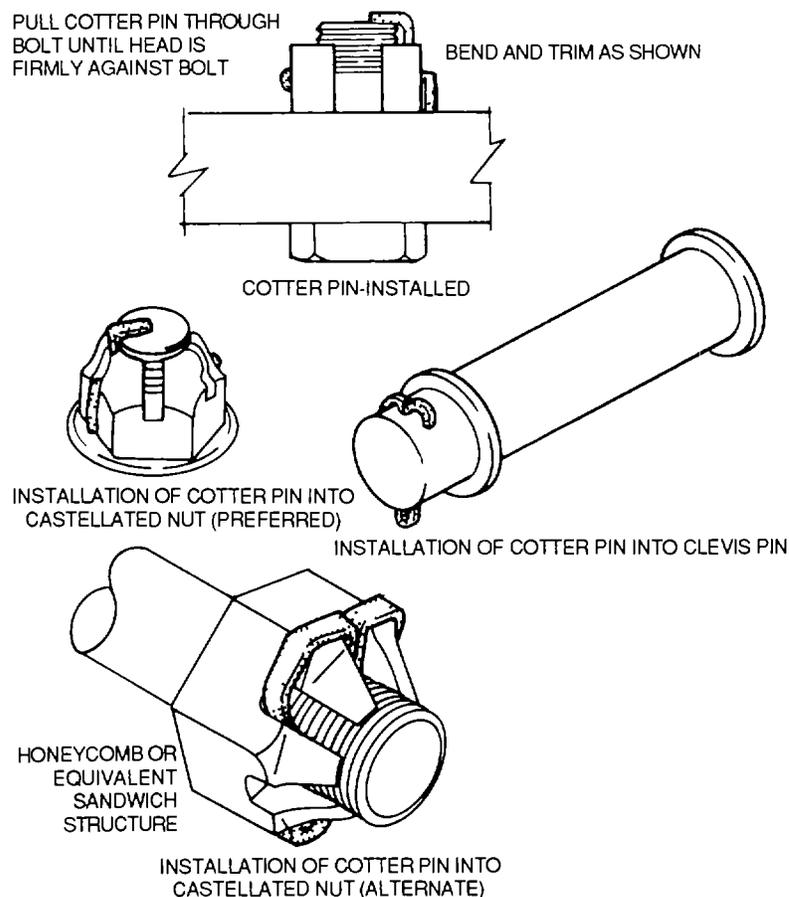

Figure 2-77. Cotter Pin Installation
- (1) Install cotter pin in castellated nuts and bolts with head parallel to slot in nut, as shown In figure 2-77. This Is the preferred method
- (2) Install cotter pin with head horizontal to slot In nut as an alternate installation, as shown In figure 2-77. This method will be followed where there is danger of snagging hands, clothing, or equipment of flight personnel on sharp ends of cotter pin or because of installation difficulties.
- (3) When safetying a clevis pin, install the cotter pin with the axis of the eye parallel to the shank of the clevis pin or rod end. Bend the prongs around the shank of the clevis pin or rod end, as shown in figure 2-77.